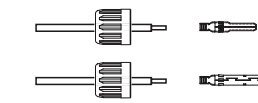

Figure 5.14 Insert the wire into the connector cap nut and contact pin
2. Insert the wire into the connector cap nut and contact pin. (see figure 5.14)